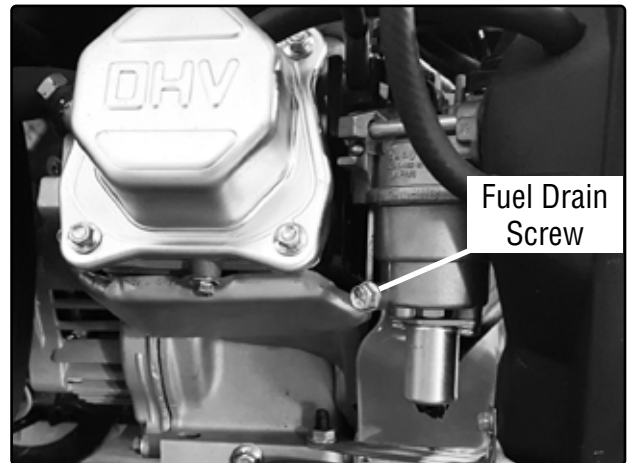

Fig. 14 - Draining the Carburetor
2. The carburetor (Fig. 14) can be accessed from the back-side of the generator between the engine and the air filter. To drain the carburetor, open up the carburetor drain screw with a Phillips-head screwdriver (not included) and drain out any gasoline that has built up inside.
Check the oil level before each use and every 8 hours of operation (refer to Fig. 14).